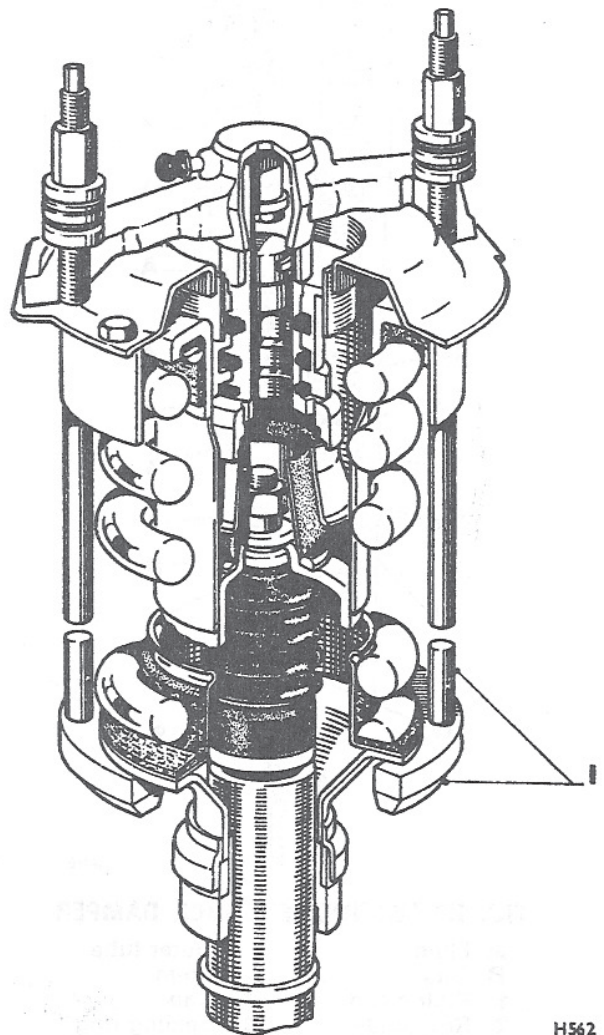

FIG. H7 SPRING COMPRESSING TOOL IN POSITION
10. Fit the road spring compressing tool (RH 7889) (see Fig. H7) in position. It is most important that each long bolt of the compressor is screwed fully into the base plate of the tool.